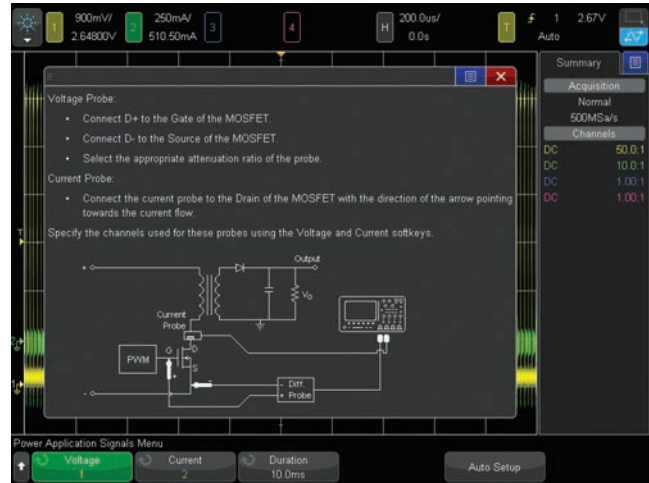

Figure 24: Modulation measurement connections diagram.
4. Connect the N2790A voltage probe between channel-1 of the scope to the gate/base (red lead) and source/emitter (black lead) of your switching transistor as illustrated in the on-screen connections diagram of Figure 24. Note that although the connection diagrams also shows a current probe connected to the drain, this probe connection is not necessary for this measurement.